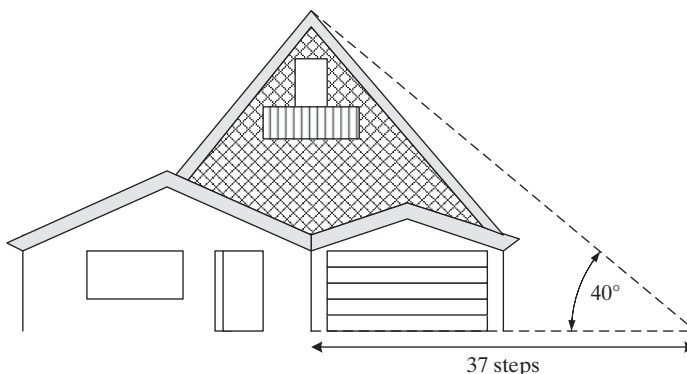

Figure 3.55
5. Some neighbors just added a particularly ugly addition to their home. You have a suspicion that the addition is not in compliance with the homeowners' association limit of 32 feet to the highest point on the home. To surreptitiously check it out, you wait until mid afternoon and take a photo from the street. From the photo you determine that the home's shadow is making an angle of 40° from the ground, as indicated in Figure 3.55. Then you step off the length of the shadow along the ground (32 steps).